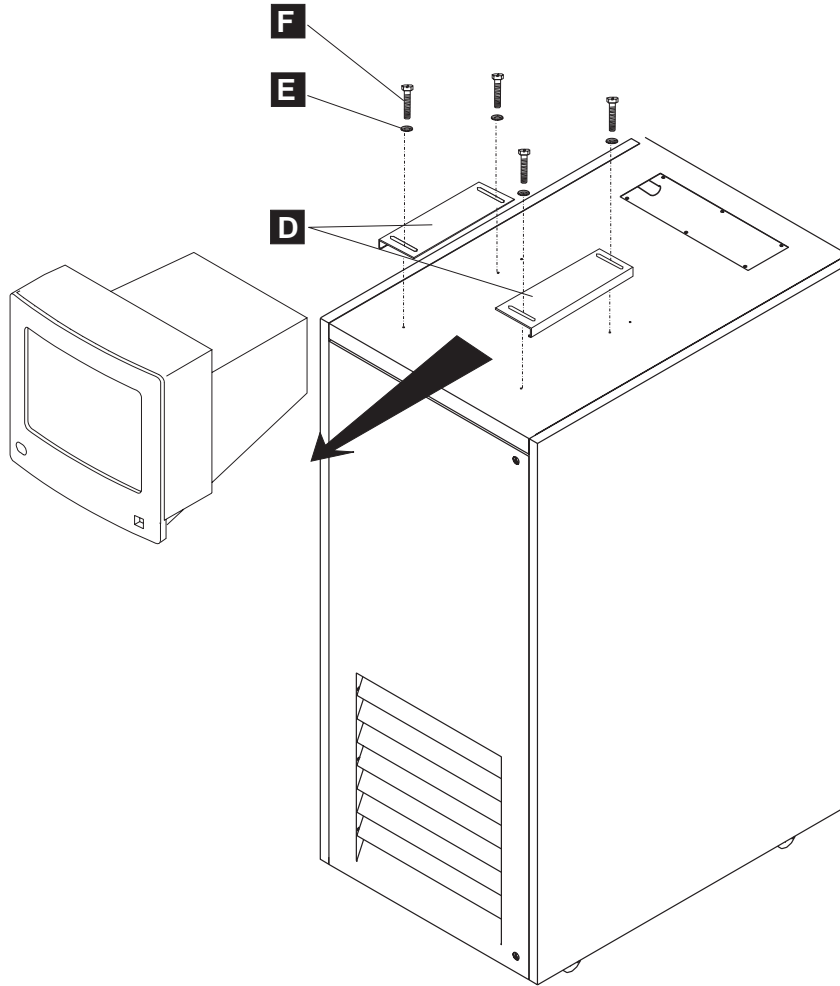

Figure 6-5. Display Removing from the Top of 29U Rack
4. Loose and remove the screws **F** that maintain the safety retainers **D** (see Figure 6-5 on page 6-4).